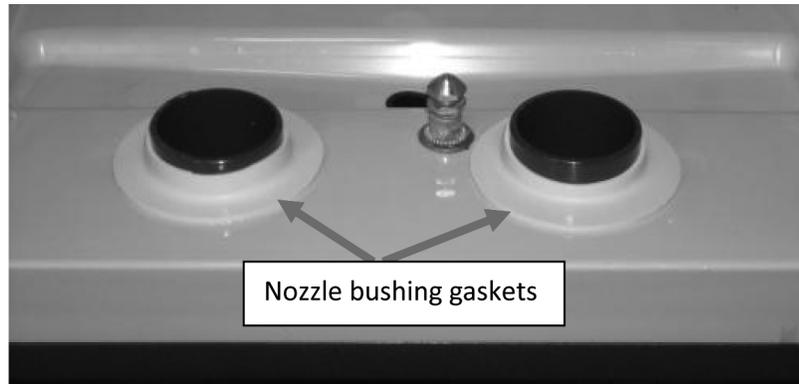

Figure 17. Nozzle bushing gaskets - proper installation
1. Remove natural rubber nozzle bushing gasket (see Figure 17) and inspect it and silicone RTV. If cracked, clean off RTV, and re-apply using kit P/N 729011013 per instructions provided with kit.